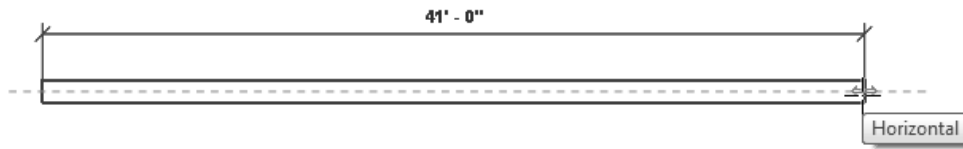

Figure 3-29 The sketched horizontal wall with its controls
5. Move the cursor to the right until the temporary dimension shows a value more than 40'-0", as shown in Figure 3-29. Click at this location as the endpoint of the wall segment and press ESC twice; the wall is created. Note that, if the dimension is not displayed, you need to click on the created wall to display the dimension. Press ESC.